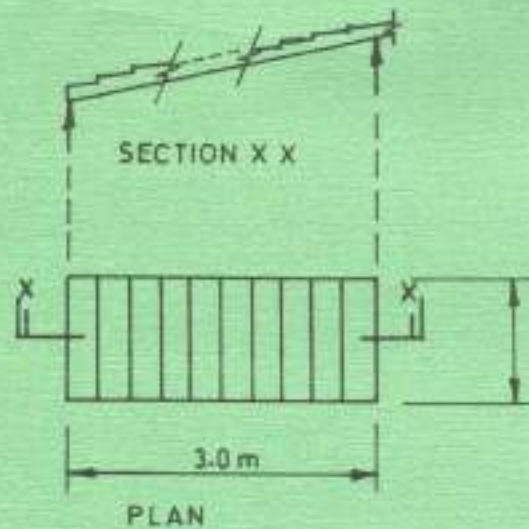

Fig. 4
- (b) **Figure 4** shows the plan and section of a reinforced concrete stair slab which spans longitudinally along simple supports.